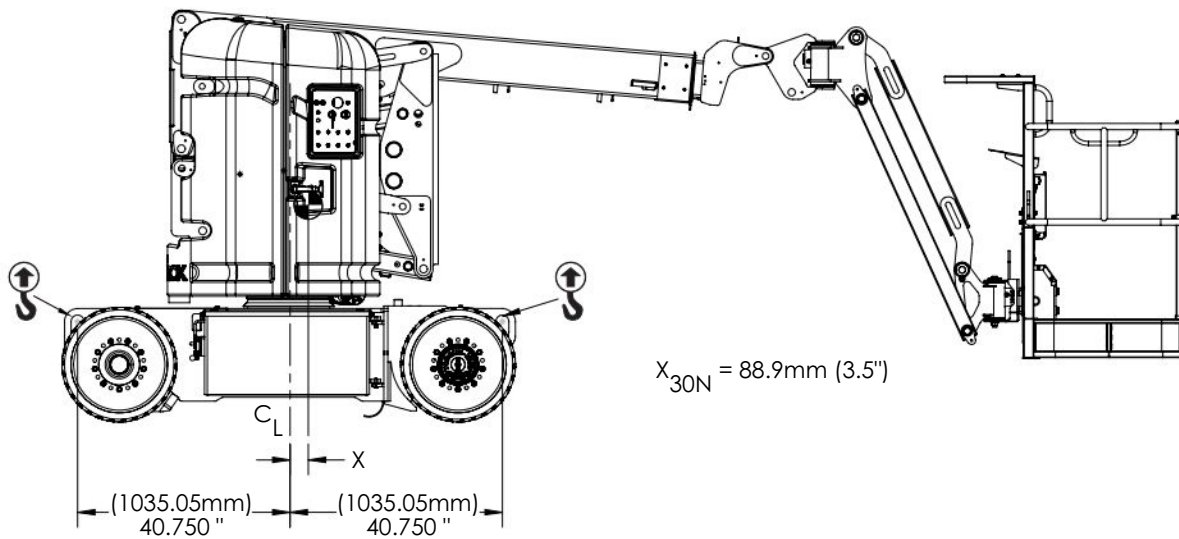

Figure 25 Lifting points/center of gravity
When lifting the MEWP, lifting devices must be attached to designated lift points only (refer to Figure 25).
4. Properly adjust rigging to ensure MEWP remains level during lifting. See Center of gravity location (Figure 25).